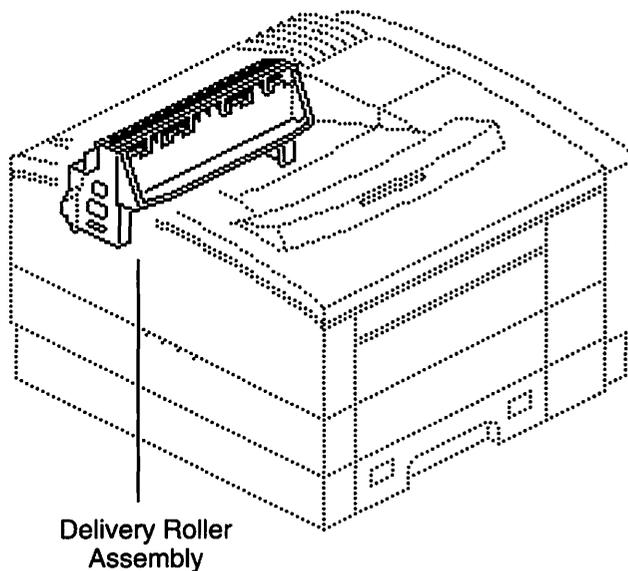

Figure 1-14
- The delivery roller assembly (see Figure 1-14) moves the page, following a c-shaped path, from the fuser assembly to the paper delivery tray on top of the printer.